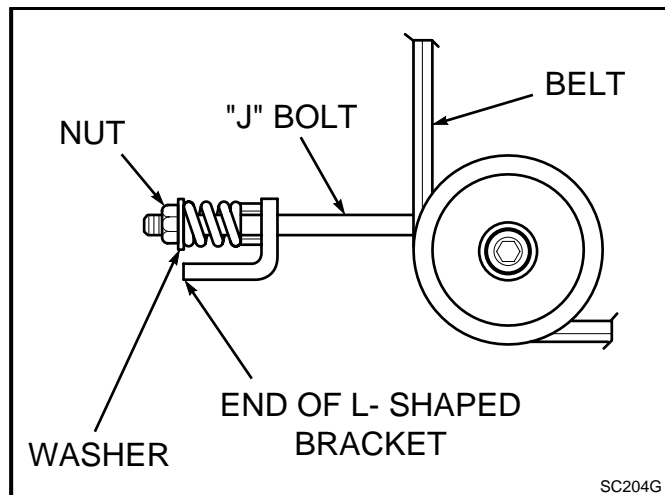

Figure 5
2. To adjust cutter deck drive belt: Adjust until end of spring aligns with end of L-shaped bracket. (See Figure 5)